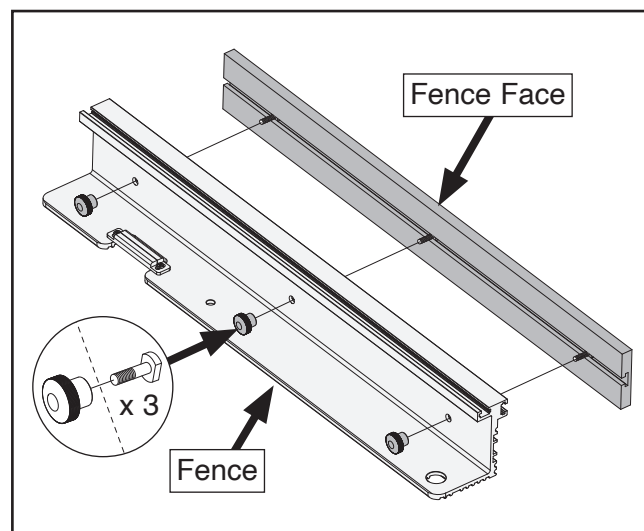

Figure 6. Attaching fence face to fence.
6. Insert (3) $\frac{5}{16}$ "-18 x 1" T-bolts into fence face slot, as shown in **Figure 6**.
7. Align bolts with holes in fence, then attach fence face to fence by loosely threading (3) $\frac{5}{16}$ "-18 round knobs onto bolts (see **Figure 6**).